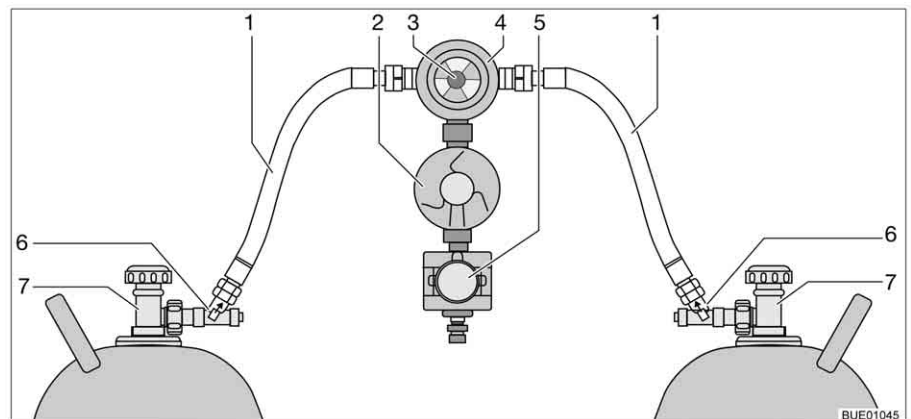

Fig. 81 Crash protection unit switching facility
The crash protection unit consists of two flow restrictors with manual release button (Fig. 81,6) a reversing valve (Fig. 81,4) with pressure regulator (Fig. 81,2), an electrovalve (Fig. 81,5) and the operating unit with tricoloured LED. The reversing valve is installed between the two gas tubes (Fig. 81,1). Use the knob (Fig. 81,3) on the reversing valve to select which of the gas bottles is to be used as a primary bottle and which is to be used as a reserve bottle.
Only the electrical functions can be switched at the operating unit (Fig. 82). The regulator taps on the gas bottles (Fig. 81,7) and the release buttons (Fig. 81,6) must be opened manually.
- Open the regulator taps of the gas bottles (Fig. 81,7).
- Press the release buttons (Fig. 81,6) successively for 10 seconds.
- Use the knob (Fig. 81,3) on the reversing valve (Fig. 81,4) to select the gas bottle which is to be the primary source of gas (primary bottle). Always turn the knob as far as it will go.
- Close the regulator taps of the gas bottles (Fig. 81,7).